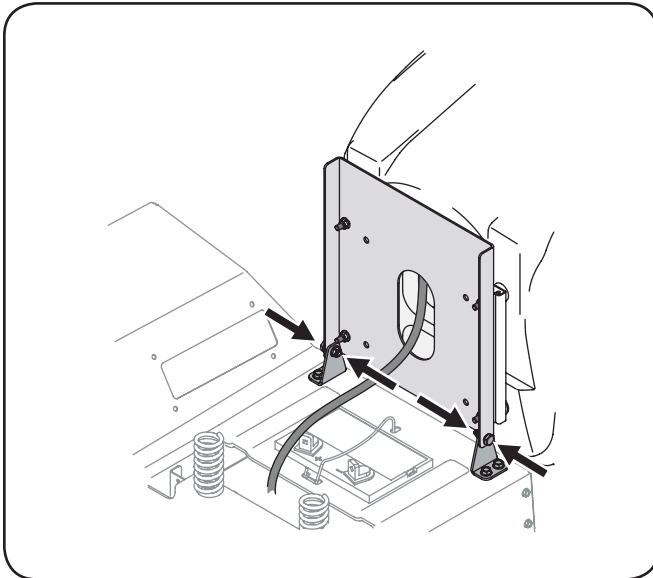

Figure 3-4
3. Rotate the seat into position and secure the seat into place with the previously removed shoulder bolts and lock nuts. Be careful not to crimp or damage the wire harness while installing the seat. See Figure 3-4.